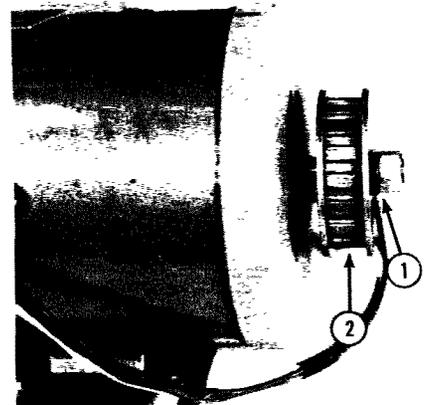

Fig. 2-11
- (2) Remove the jam nut, lock-washer (1, Fig. 2-11) flanges, gear pulley and key (2, Fig. 2-11).